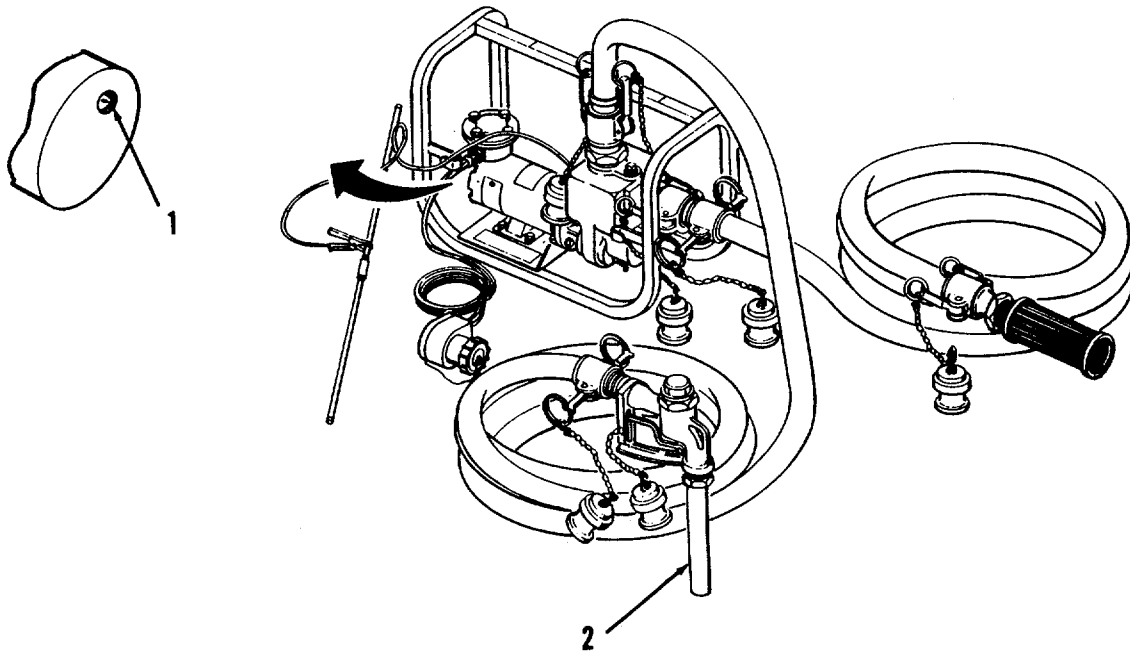

Figure 2-1. Operator's Control and Indicator
2.2. OPERATOR'S CONTROLS AND INDICATORS. For controls and indicators applicable to the pumping unit, refer to the following descriptions and to Figure 2-1.
2.2.2. Nozzle Assembly (2). When fuel is being pumped by the pumping unit, it is discharged by the operator through the use of the nozzle assembly attached to the discharge end of the discharge hose. Depressing the nozzle handle will allow fuel to flow from the spout of the nozzle. When the handle is released, it will automatically retract to stop the flow of fuel from the spout of the nozzle. Figure 2-1. Operator's Controls and Indicators.